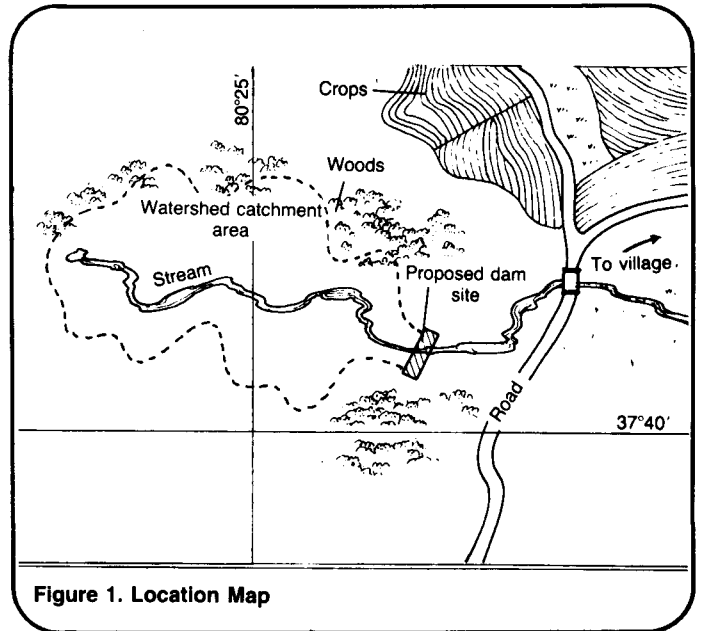

Figure 1. Location Map
1. A map of the area, including the location of the dam, access roads, the watershed area and nearby communities and houses. Figure 1 gives an example of the type of location map needed.